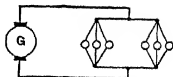

FIG. 43: The 6 lamps in parallel take 6 times as much current as 1 lamp.
**Prob. 19-2.** Each lamp in Fig. 43 takes 0.55 ampere. How much current is supplied by the generator?